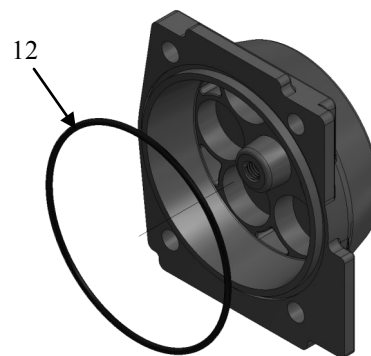

Fig. 8.3
- b. End Cap O-rings: will have the largest O-ring diameter (2 pieces), (#12 fig. 8.3)